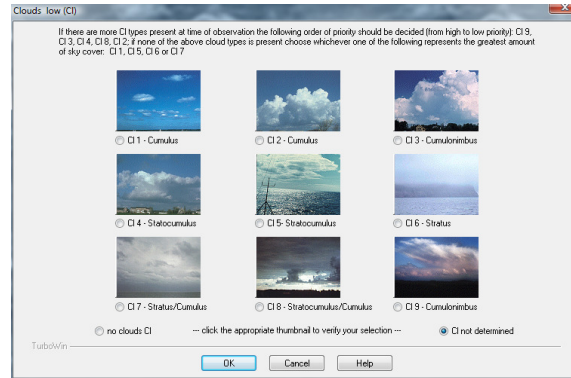
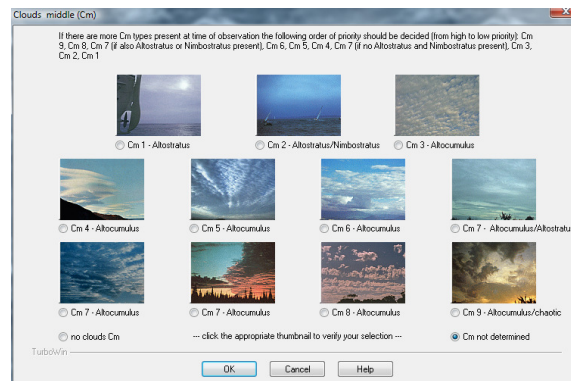
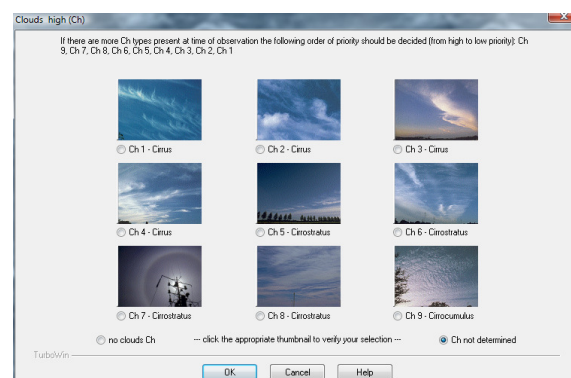

Figure 28. Low cloud dialogue box
Figure 29. Middle cloud dialogue box
Figure 30. High cloud dialogue box
10.12.1. Cloud is reported in discrete layers: low; middle; high. The dialogue boxes for low cloud, middle cloud and high cloud are shown respectively in **Figure 28**, **Figure 29** and **Figure 30**.